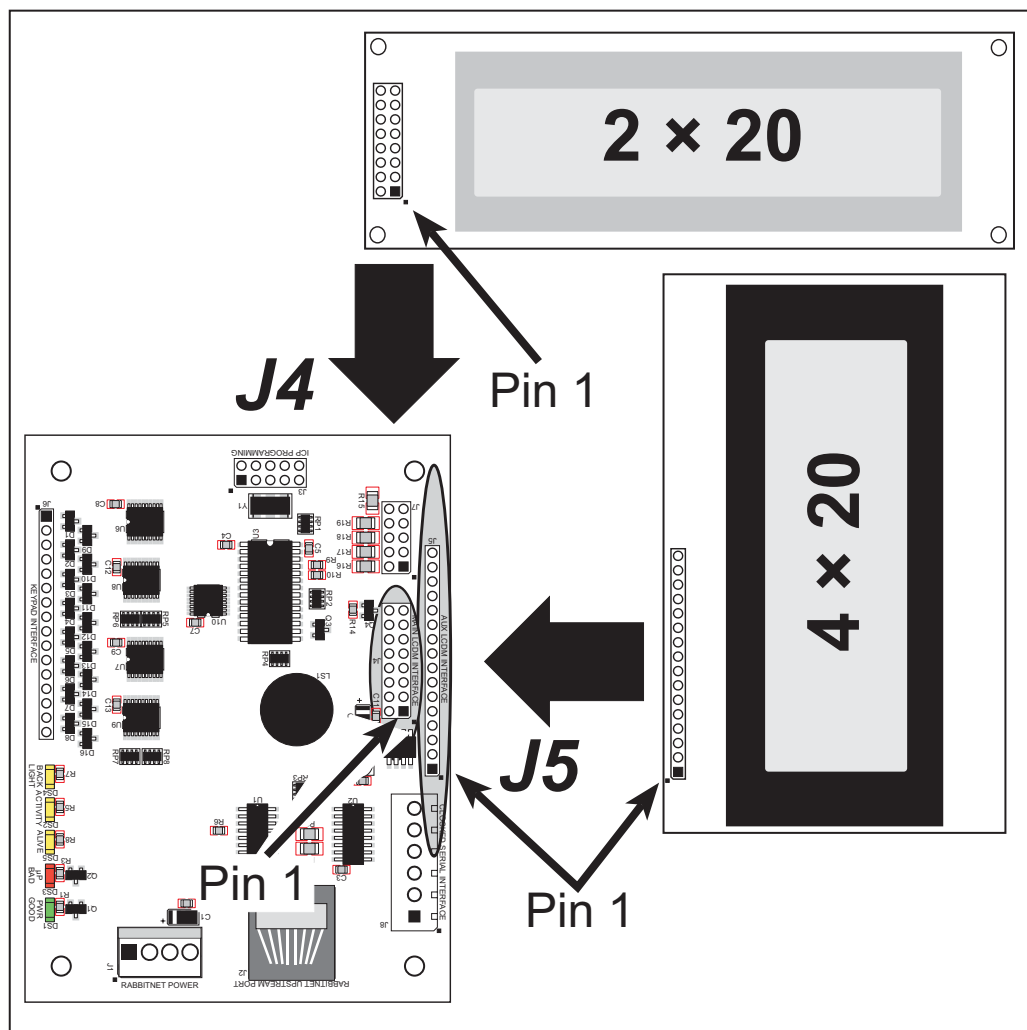

Figure A-2. Connecting Displays to Keypad/Display Interface Headers J4 and J5
2. Connect the 4×20 display to header J5 on the Keypad/Display interface as shown in Figure A-2.